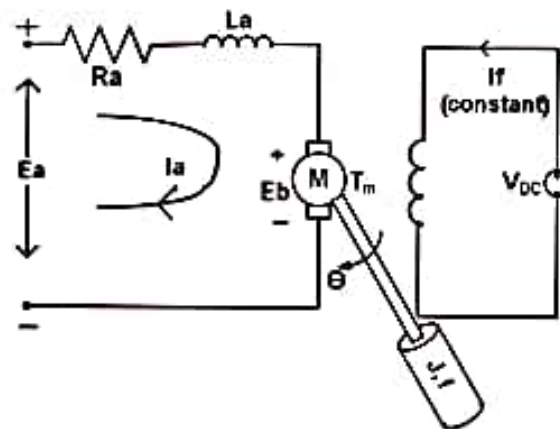

Fig 4.6. Schematic diagram of armature control type speed control system of a DC motor
**4.4. Mathematical model of armature controlled DC motor:** The armature control type speed control system of a DC motor is shown in Fig.4.6. The following components are used in this system.